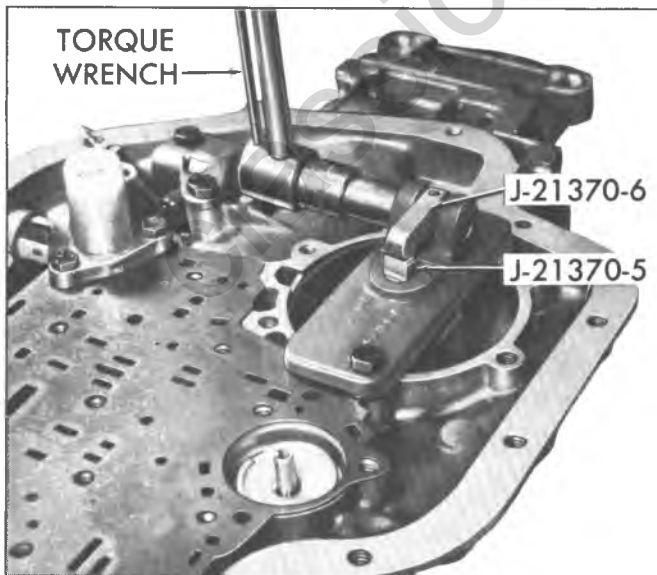

Fig. 146T--Checking Rear Band Pin
1. Check rear servo band apply pin. (Fig. 146T).